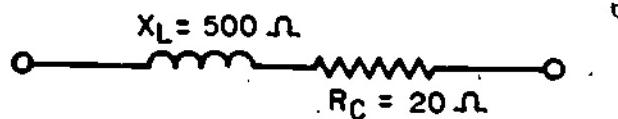

Figure 6
The Q of an inductor, tank, or loaded circuit expresses the relationships between inductive reactance (X_L), capacitive reactance (X_C), and resistance (R). The Value Q, or quality, represents the ratio of "energy stored/energy used". Figure 6 shows the inductor equivalent for X_L and R_C (coil resistance).